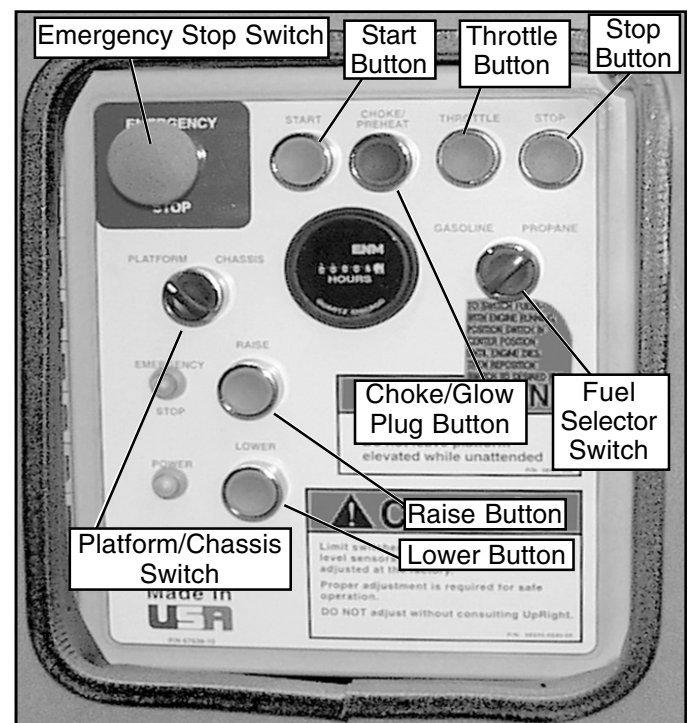

Figure 1: Chassis, Left Side
9. Place chassis and platform emergency stop switches in the **ON** position (Figures 1 & 2) by pulling the buttons out.
10. Verify platform/chassis switch is on **PLATFORM** (Figure 1).
8. Push the throttle button in. Push chassis raise button to elevate platform while pushing the tilt sensor (Figure 1) off of level. The platform should only partially elevate and the tilt alarm should sound. If the platform continues to elevate and/or there is no alarm **STOP** and remove the machine from service until it is repaired.
1. With engine running turn the fuel selector switch (Figure 1) to the center position.